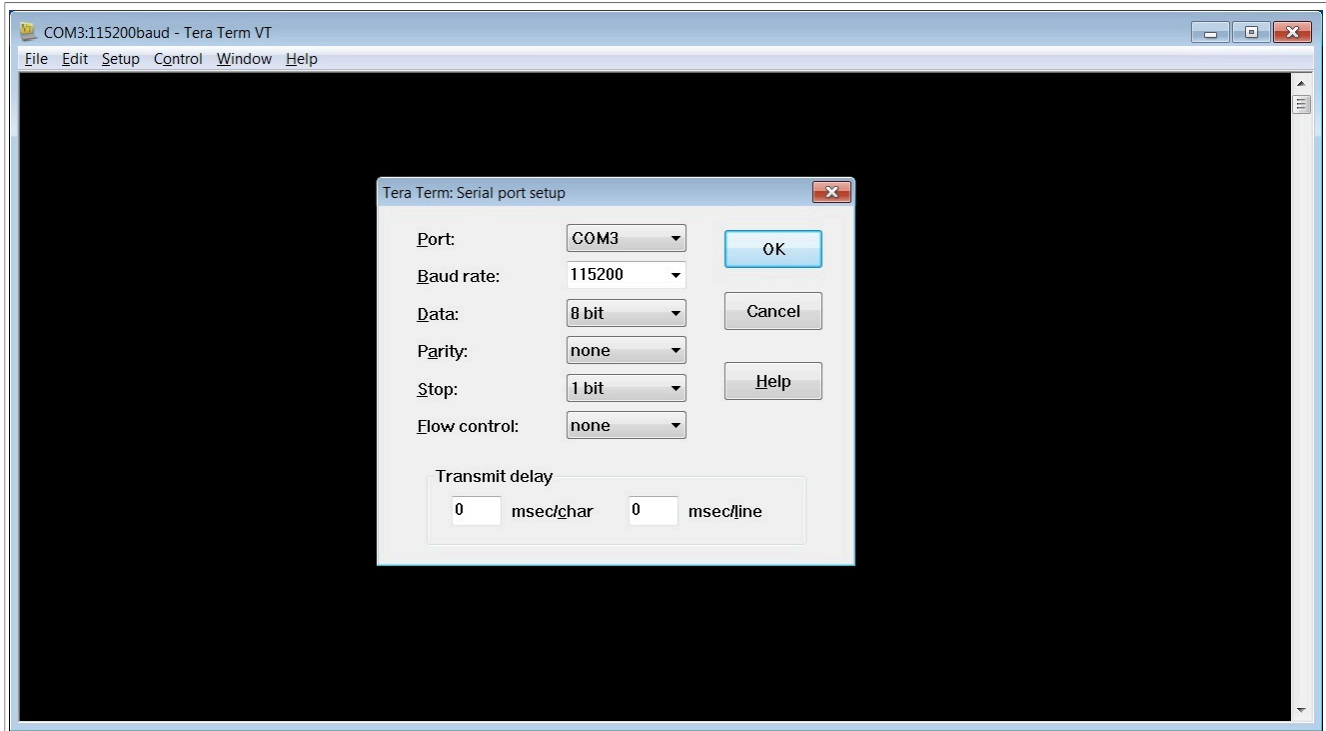

Figure 11. Connecting to the i.MX console via a terminal
5. Install a Terminal emulator on the Laptop for enabling console display of the i.MX boards through the serial/USB ports, as shown in the Figure 11.